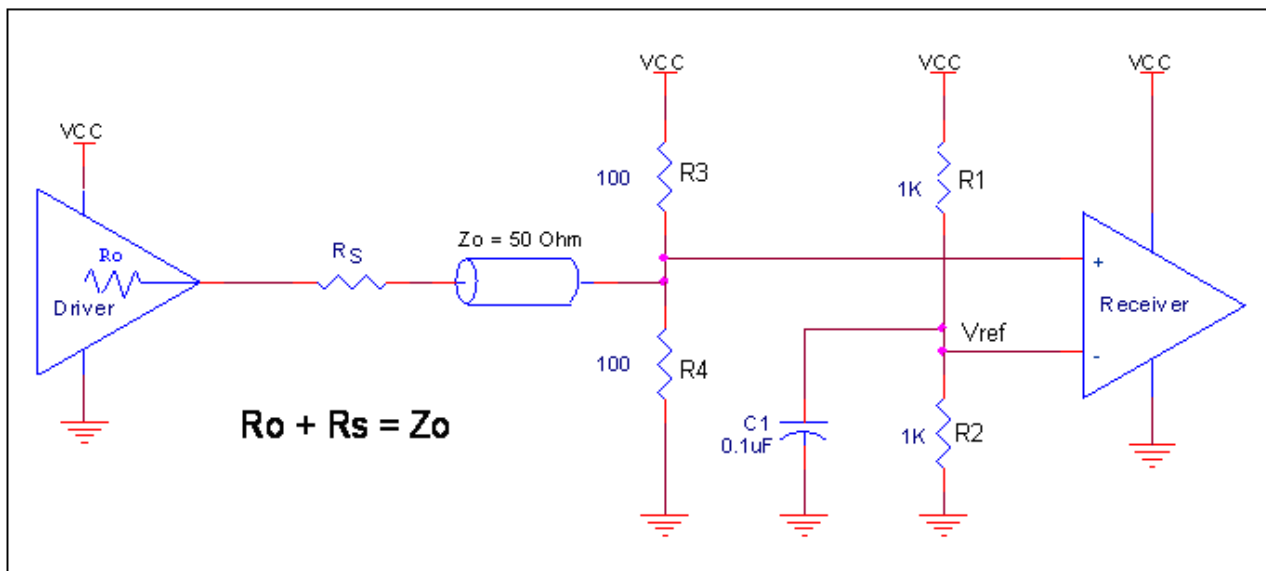

Figure 2. Recommended Schematic for Wiring a Differential Input to Accept Single-ended Levels
*Figure 2* shows how a differential input can be wired to accept single ended levels. The reference voltage  $V_{REF} = V_{CC}/2$  is generated by the bias resistors R1 and R2. The bypass capacitor (C1) is used to help filter noise on the DC bias. This bias circuit should be located as close to the input pin as possible. The ratio of R1 and R2 might need to be adjusted to position the  $V_{REF}$  in the center of the input voltage swing. For example, if the input clock swing is 2.5V and  $V_{CC} = 3.3\text{V}$ , R1 and R2 value should be adjusted to set  $V_{REF}$  at 1.25V. The values below are for when both the single ended swing and  $V_{CC}$  are at the same voltage. This configuration requires that the sum of the output impedance of the driver ( $R_o$ ) and the series resistance ( $R_s$ ) equals the transmission line impedance. In addition, matched termination at the input will attenuate the signal in half. This can be done in one of two ways. First, R3 and R4 in parallel should equal the transmission